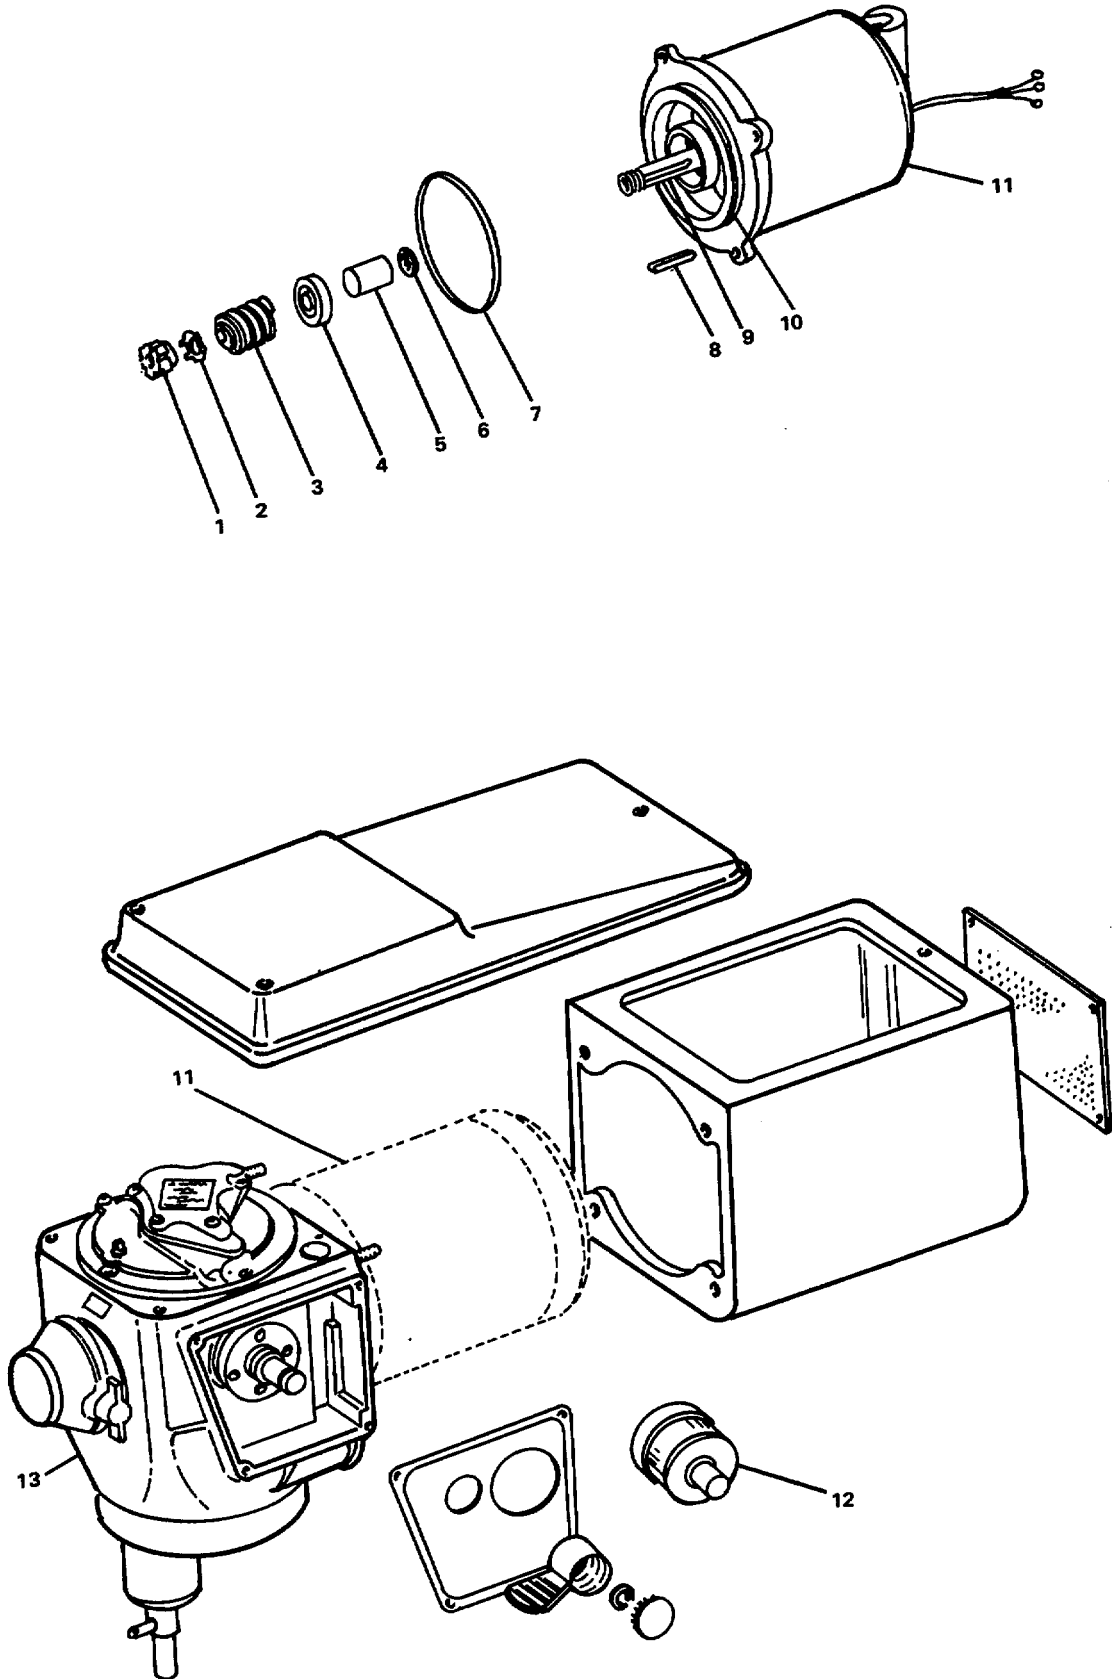

FIGURE 3-64 Repair Electric Food Mixing Machine.
- a. Remove tags and connect electrical leads to electrical heating element (5).
- b. Attach clamp plate (6) over electrical heating element with hexagon nuts (10) and flat washers (8) and eyelet (11).
- c. Install thermostatic control probe and attach with hexagon nuts (10) and cup washers (12).
- d. Attach baffle (7) with hexagon nuts (10) and washers (9).
- e. Remove tags and attach electrical leads to indicator light (16).
- g. Position temperature control (4) through opening in front panel, push on control mounting cup (13) and attach with four machine screws (15), hexagon nuts (2) and lockwashers (3).
- h. Push knob (14) onto handle of thermostatic control (4).
- i. Attach case bottom (1) with six machine screws (17).
**3-62. Repair Electric Food Mixing Machine. (Figure 3-64)**